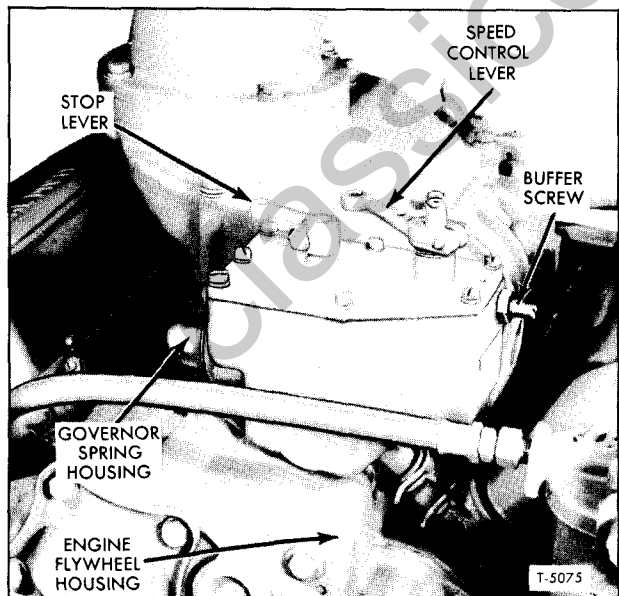

Figure 4—Limiting Speed Governor Mounting
The limiting speed mechanical governor assembly is mounted at the rear of the engine, between the flywheel housing and the blower (fig. 4). The governor is driven by the right blower rotor drive gear. The left blower rotor drive gear is driven by a shaft, that passes through the governor housing, from the engine gear train. Ordinarily this adjustment is necessary only when governor assembly is repaired or replaced.
1. Stop the engine, remove the two bolts and withdraw the governor spring housing cover (fig. 4). Loosen buffer screw lock nut and back out slightly.
3. Stop engine, remove the stop lever and speed control lever linkage (fig. 4); also the governor cover which is attached with seven screws.